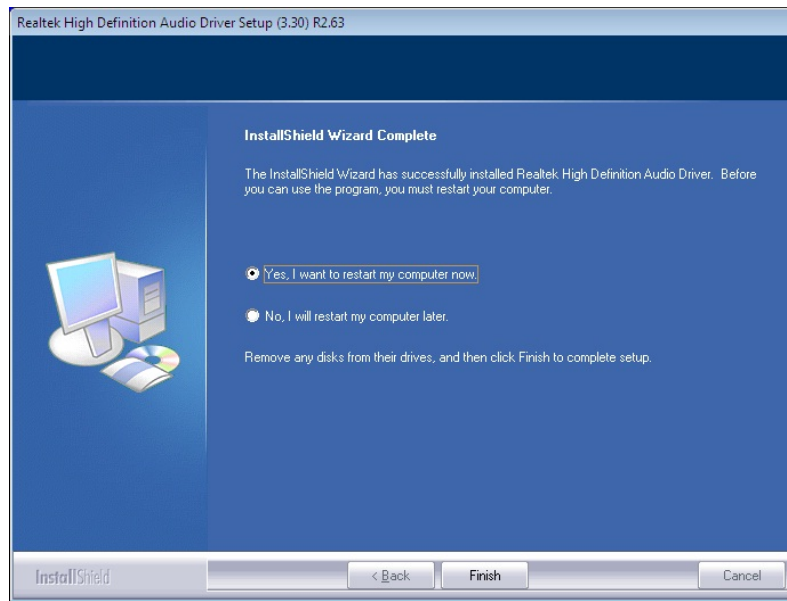

Figure 6-18: Audio Driver Installation Complete
Step 10: When the driver installation is complete, the screen in **Figure 6-18** appears.